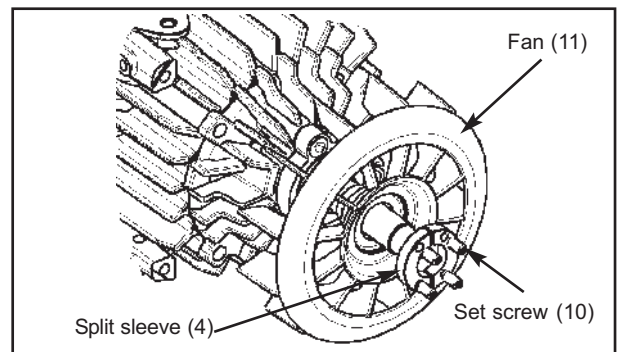

Figure 12
3. Loosen the the four M8 set screws (10) holding the split sleeve, and remove the split sleeve (4) ; See figure 12.